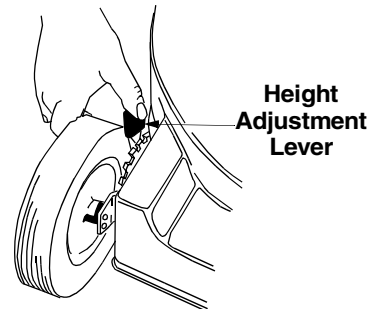

Figure 9
- Simply depress the lever towards wheel and move wheel and lever assembly to desired position. All wheels must be placed in the same relative position. See Figure 9.